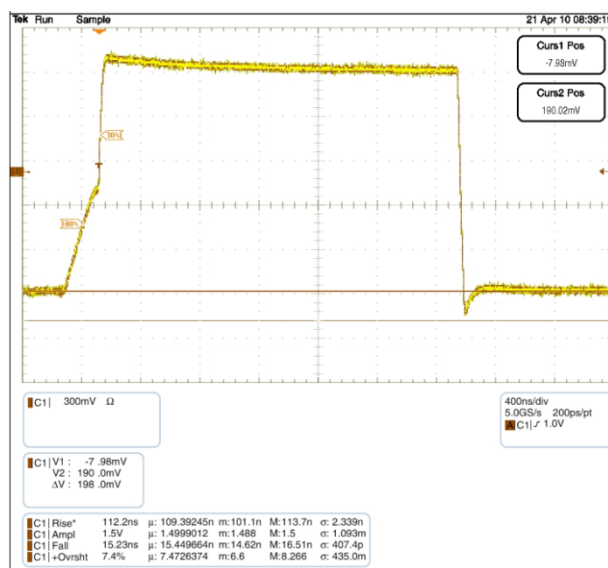

Figure 5. FXMA2102 Waveform C: 600 pF, RPU: 2.2 K
Due to I²C's open-drain topology, I²C masters and slaves are not push/pull drivers. Logic LOWs are “pulled down” (I_{sink}), while logic HIGHs are “let go” (3-state). For example, when the master lets go of SCL (SCL always comes from the master), the rise time of SCL is largely determined by the RC time constant, where $R = R_{PU}$ and C = the bus capacitance. If the FXMA2102 is attached to the master [on the A port] in this example, and there is a slave on the B port, the Npassgates act as a low resistive short between both ports until either of the port's $V_{CC}/2$ thresholds are reached. After the RC time constant has reached the $V_{CC}/2$ threshold of either port, the port's edge detector triggers both dynamic drivers to drive their respective ports in the LOW-to-HIGH (LH) direction, accelerating the rising edge. The resulting rise time resembles the scope shot in Figure 5. Effectively, two
The FXMA2102 dynamic drivers have enough current sourcing capability to drive a 400 pF capacitive bus. This is beneficial for instances when an I²C buffer / repeater is required. The I²C specification stipulates a maximum bus capacitance of 400 pF. If an I²C segment exceeds 400 pF, an I²C buffer / repeater is required to split the segment into two segments, each of which is less than 400 pF. Figure 5 is a scope shot of an FXMA2102 driving a lumped load of 600 pF. Notice the (30% – 70%) rise time is only 112 ns ($R_{PU} = 2.2$ K). This is well below the maximum edge rate of 300 ns. Not only does the FXMA2102 drive 400 pF, but it also provides excellent headroom below the I²C specification maximum edge rate of 300 ns.